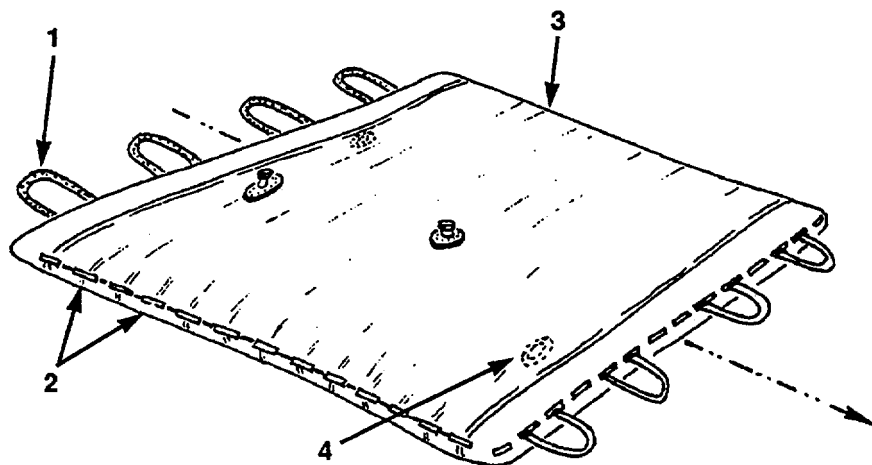

Figure 4-5. Tank fully deployed
- (7) (Refer to figure 4-5) Use deployment straps (1) and tank handles (2) to fully unfold tank (3). Tank should be laying smooth without folds.
- (8) Tank (3) should be centered within the deployment site with one drain assembly (4) at low end of site. Use tank handles (2) to move tank, as necessary (see figure 4-5).